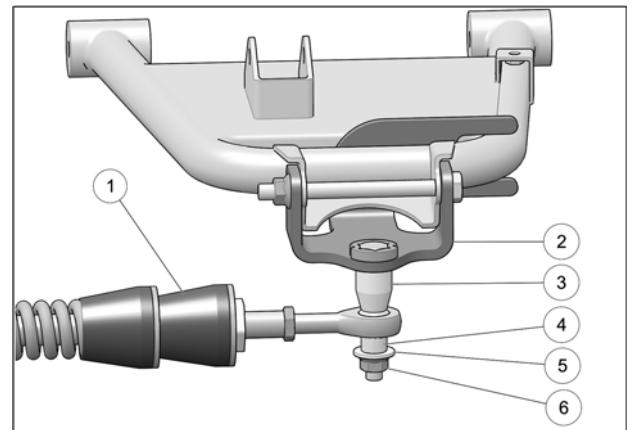

Fig. 9
9. Attach stabilizing rod (1) to anchor bracket (2), using bolt (3), short spacer bushing (4), long spacer bushing (5), flat washer (6) and nut (7). Torque to 70 N•m [52 lb•ft]. See Fig. 9